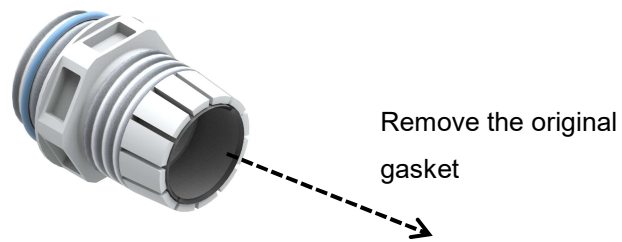

Figure 10 Remove original gasket
2. Remove the original gasket out of the cable gland fitting according Figure 10.